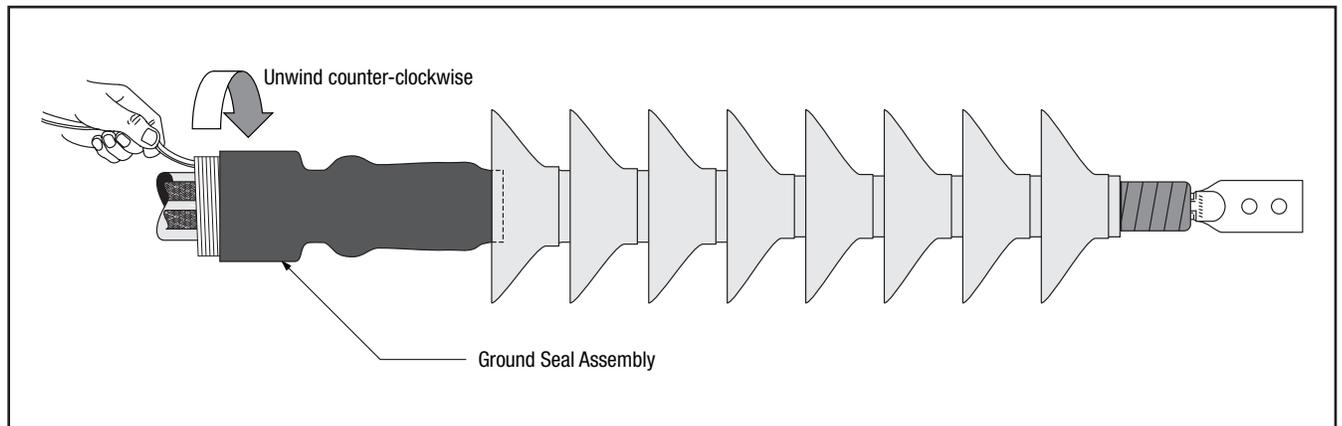

Figure 17
- 6.1 Slide the parked ground seal assembly onto the termination. Start to shrink underneath the first skirt. Remove the core by pulling the loose end while unwinding counter-clockwise. (Figure 17)